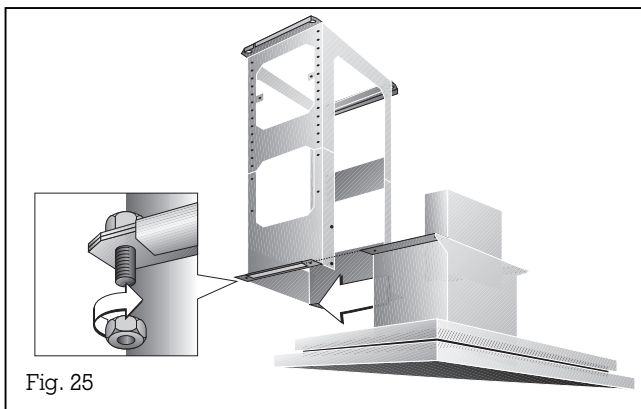

Fig. 25
7. Slide the extractor hood into the on the side of the support frame (Note: take care not to trap the mains connecting cable) and **immediately secure the hood with 4 screws** (Fig. 25).